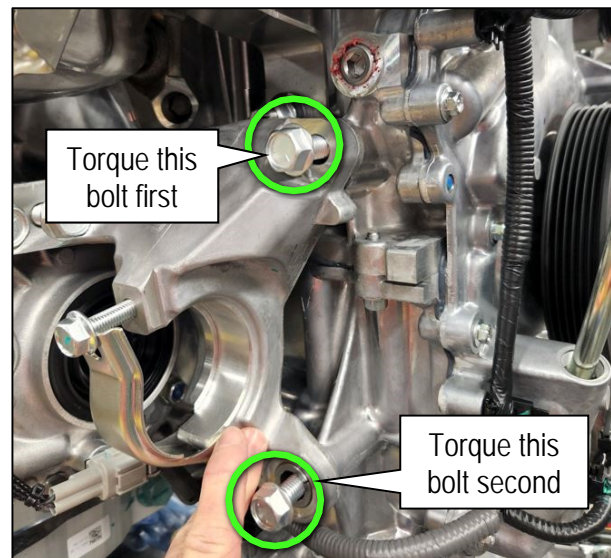

Figure 11
4. While continuing to hold the drive shaft support bearing bracket into position, torque the top drive shaft support bearing bracket to engine block bolt to specification first, and then torque the lower drive shaft support bearing bracket to engine block bolt (Figure 11).